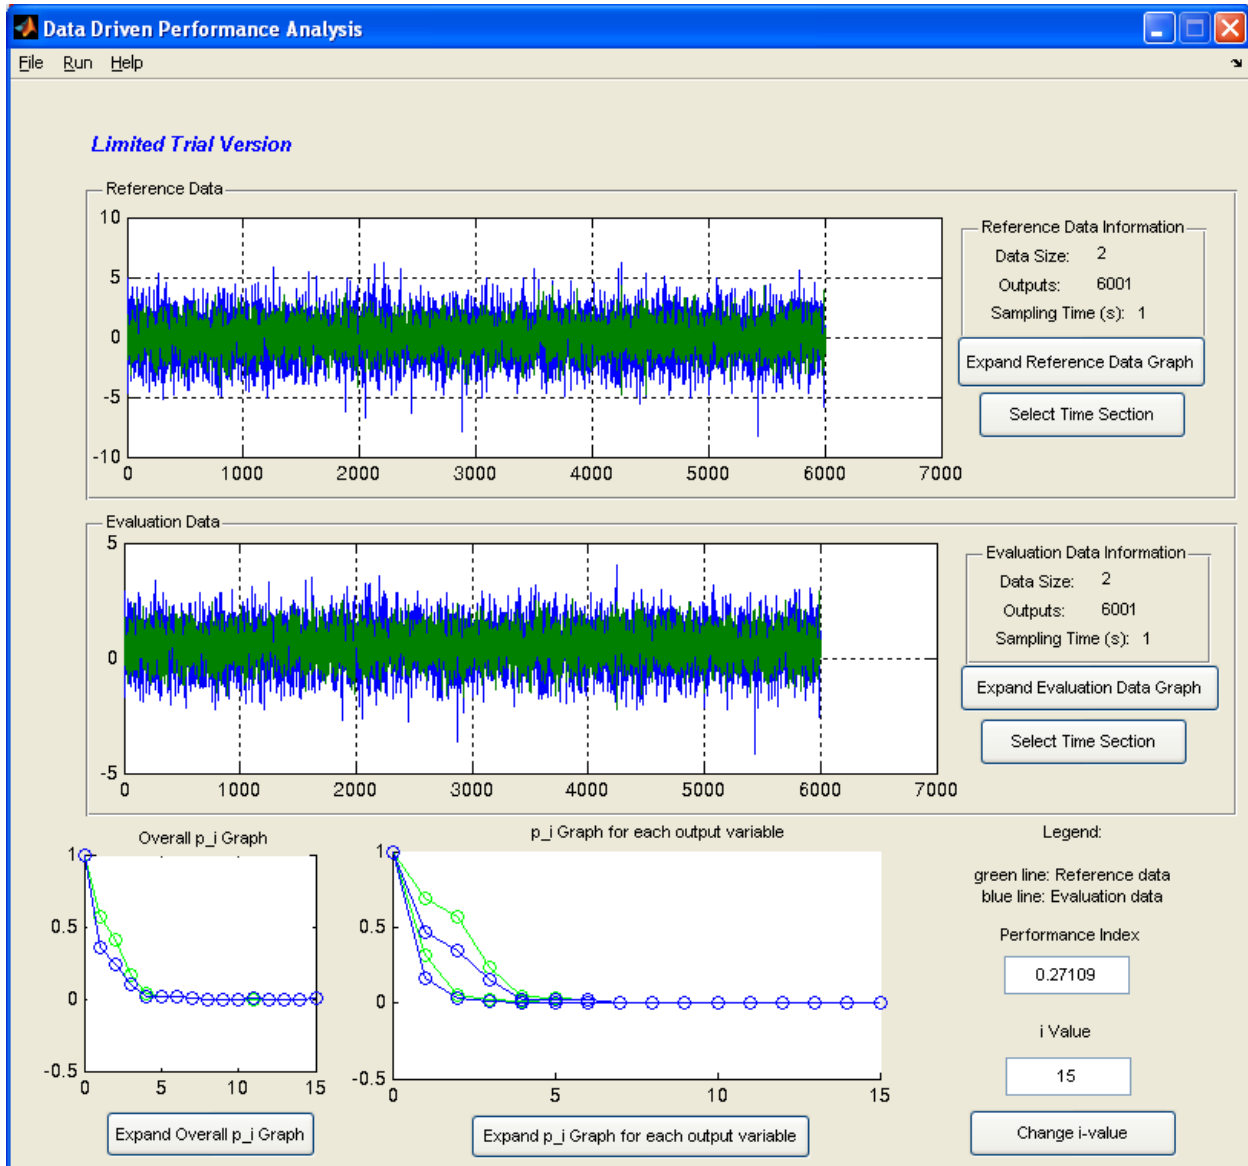
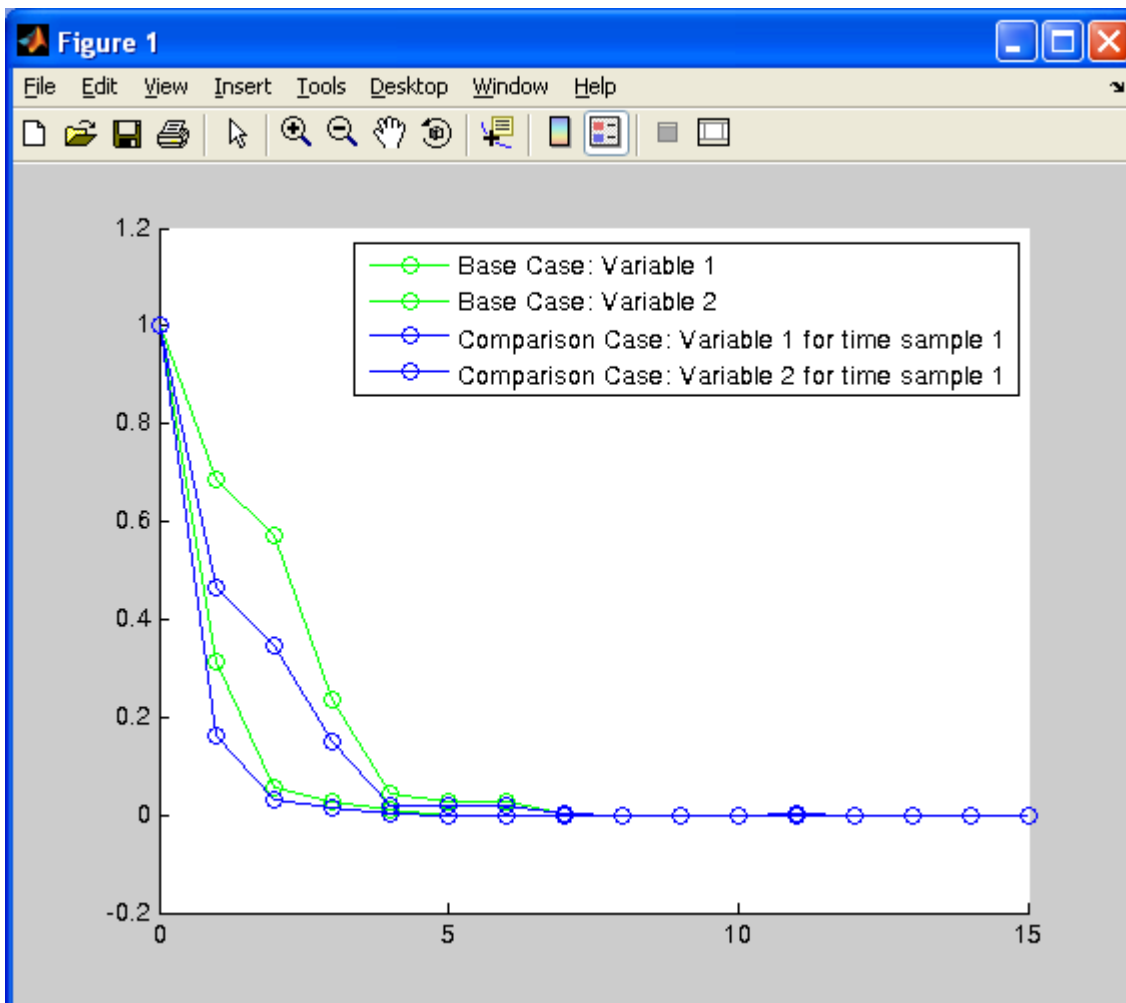

Figure 3: Screen shot after clicking "Run"
Figure 4: In-Depth View of the Individual  $p_i$  Curves
- 7) After a few seconds, the GUI should become similar to that shown in Figure 3.
- 8) Figure 3 shows that in general, the reference data (green line) is always located above the evaluation data (blue line). This suggests that significant improvement can be obtained for the process. In order to see the data better, press the "Expand pi Graph for each output variable". The Figure shown in Figure 4 should appear. This figure accentuates the above results.